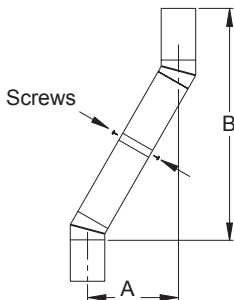

Figure 9 - Elbow Offset
if properly locked. It is not necessary to add screws to keep the chimney together (exception, see Figure 9).
1. To achieve desired offset, you may install combinations of 12", 18", 24", 36" and 48" length of double wall pipe (see offset chart and Figure 9).
4. All pipe connections between the offset and return must be secured with two screws on the outer pipe only (see Figure 9). Do not penetrate the inner stainless.